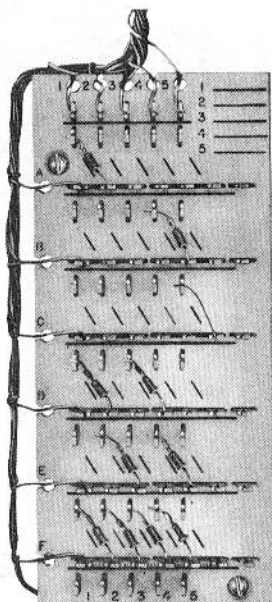

Fig. 1—1A1 Matrix Block—Typical Diode Installation
**1.01** This section provides identification, installation, wiring and maintenance information for the 1A1 Matrix Block when used in key telephone systems to provide for diode control of station audible signals (Fig. 1).